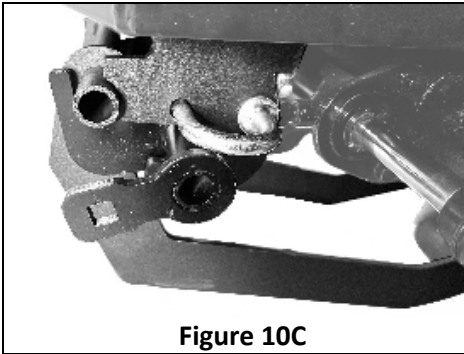

Figure 10C
9. Align the corresponding holes and lock in place with the J-Bolt Pin (figure 10C).